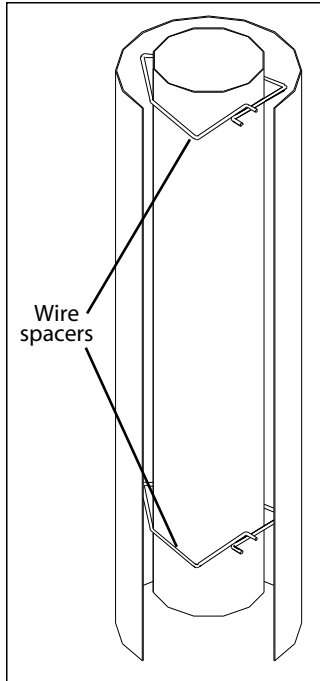

Figure 18: Wire Spacers.
8. Slide the Ø6⁵/₈" (16.25 cm) flex intake liner over the flex vent. Install four (4) wire spacers around the flex pipe. Ensure the wire spacers are positioned at either end of the pipes, and at each end of any elbows in the liners (refer to Figure 18 and 19).